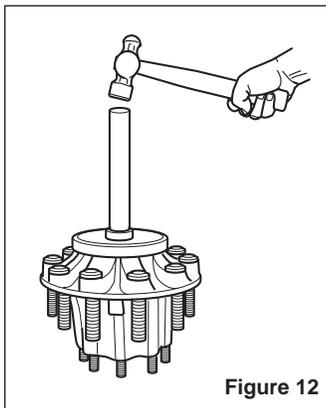

Figure 12
5. Press the ring on the hub. If a press is not available, drive the ring on with a hammer or mallet until the ring seats on the hub (see figure 12). A swift initial blow with an 8-lb. hammer may be necessary to start the ring onto the hub.